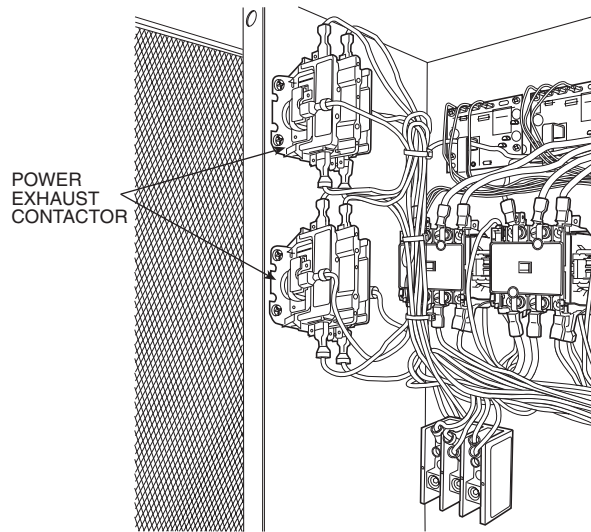

Fig. 9 — Control Box Detail
13. Remove the control box cover and install the two power exhaust contactors to the side of the control box using the screws included with the kit (8-18 x $\frac{1}{2}$ -in.). See Fig. 9.